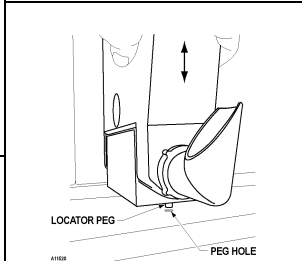
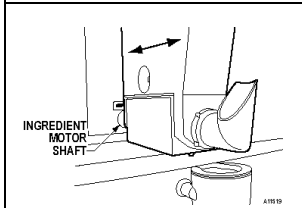

Figure 5c. Locator Peg
Figure 5d. Motor Shaft
2. If installing the canisters for the first time, go to step 3. If refilling the canisters, hold the top and bottom of the canister and slowly lift it up so that the locator peg clears the peg hole. **Figure 5c**. Slowly slide the canister forward until it is out of the ingredient motor shaft. **Figure 5d**.
8. Review the canister arranged as shown in **Error! Reference source not found.**. Hold the canister carefully at the bottom and top to prevent spilling. Gently place the filled canister back on the product shelf. **Figure 5d**.
9. Line up the hollow shaft behind the canister with the ingredient motor shaft. See **Figure 5d**.
10. Slowly slide the canister towards the motor shaft until the locator peg falls inside the hole on the product shelf. See **Figure 5c**.